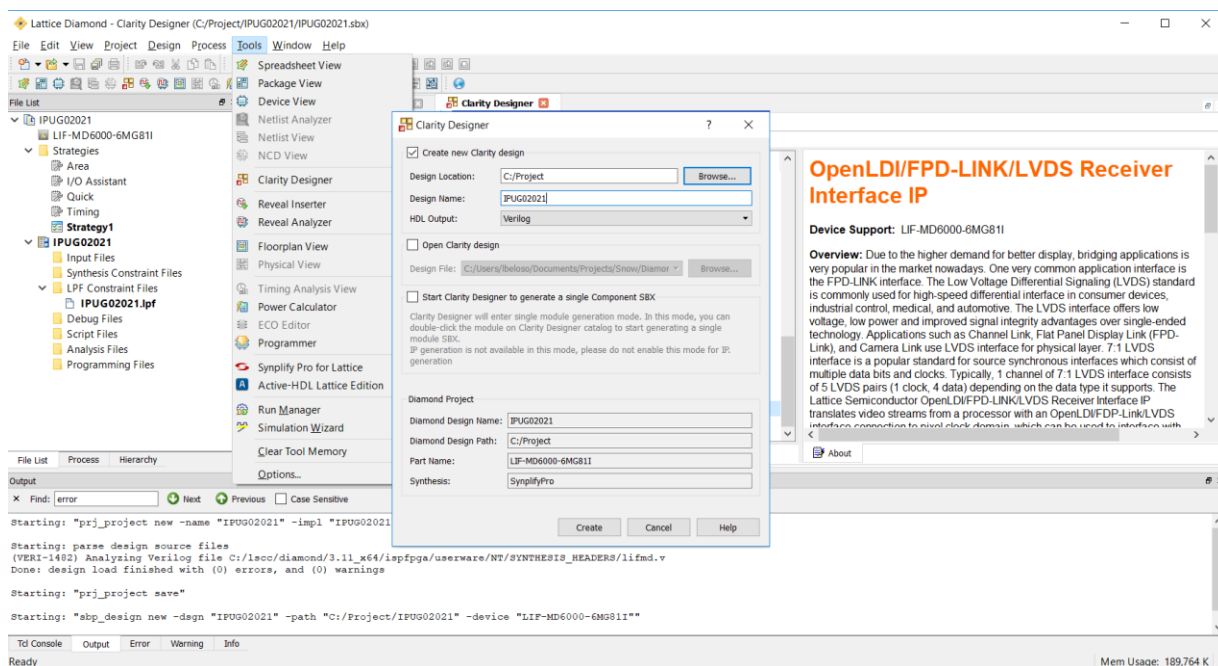

Figure 5.2. Starting Clarity Designer from Diamond Design Environment
3. Select and/or fill out the following items as shown in Figure 5.2.